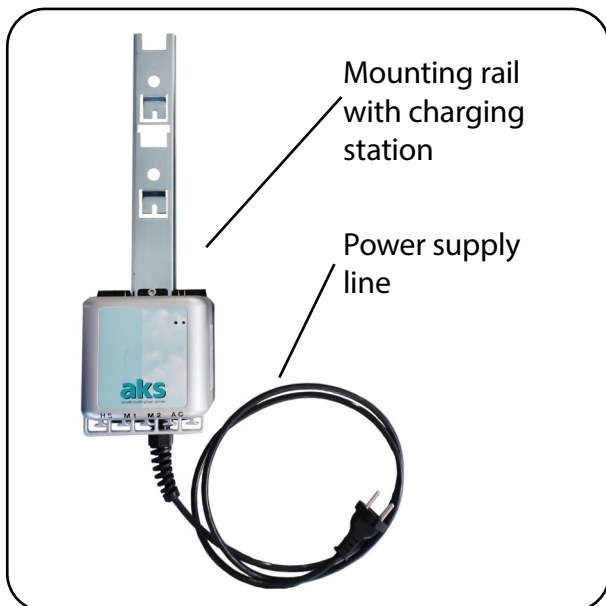

Fig. 6.3.01 – Scope of delivery for wall charging station accessories
2. Plug the connection plug of the power supply line directly into a correctly installed and suitable mains socket (Fig. 6.3.01).